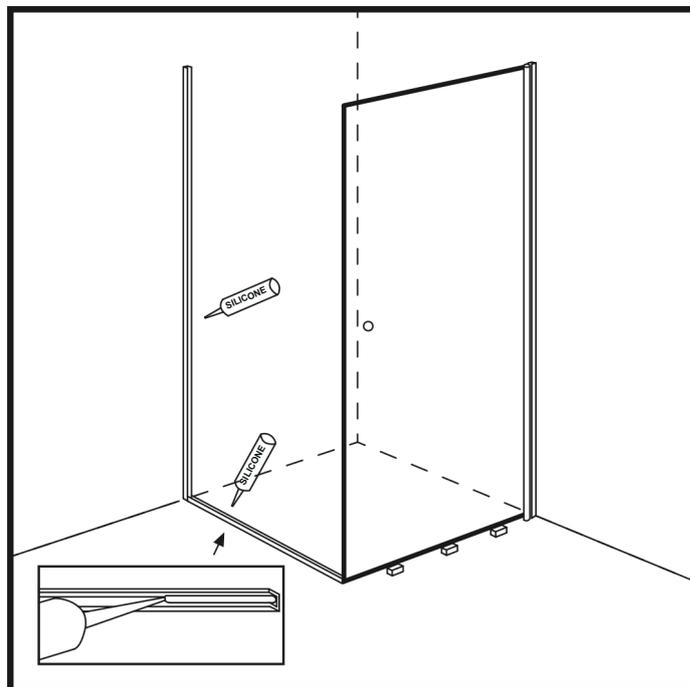

Figure 13
28. Fill the U-profiles on the wall and floor with an even silicone strip. (Figure 13)